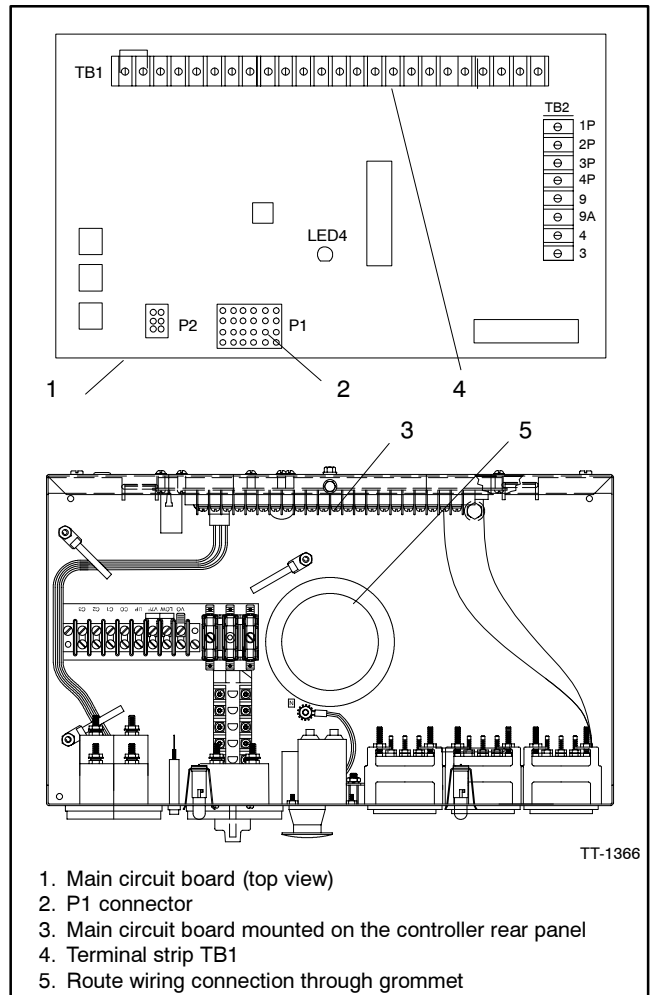

Figure 2 Controller Circuit Board Connections
- 2.6 Connect the leads from the controller connection assembly to terminal strip TB1 on the controller main circuit board. See Figure 2. If access to interconnection circuit board is difficult, remove two controller panel top screws and center bottom screw and then loosen bottom screws to swing rear controller panel down.